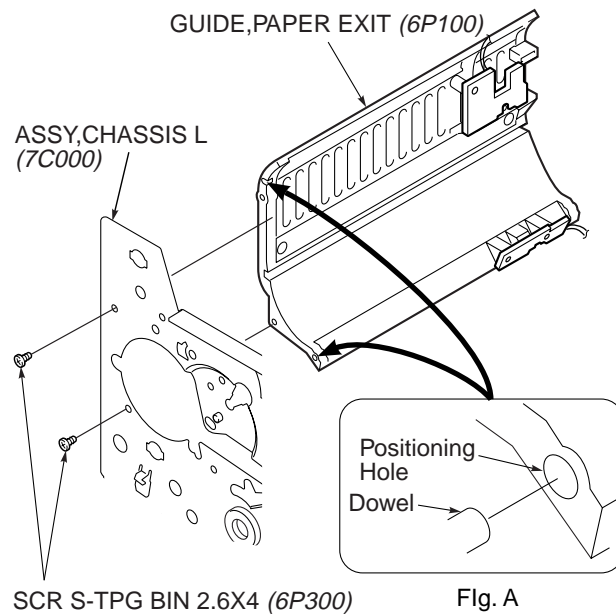

Fig. 3-16-1
(See Figs. 3-16-1 to 3-16-2)
- 2) Remove the two “SCR S-TPG BIN 2.6X4 (6P300)” and remove the “GUIDE,PAPER EXIT (6P100)”. (Refer to Fig. 3-16-1.)
- 3) Remove the two “SCR S-TPG BIN 2.6X4 (6Q000)” and remove the “COMPL PWB,MC-4 (MC-4)”. (Refer to Fig. 3-16-1.)